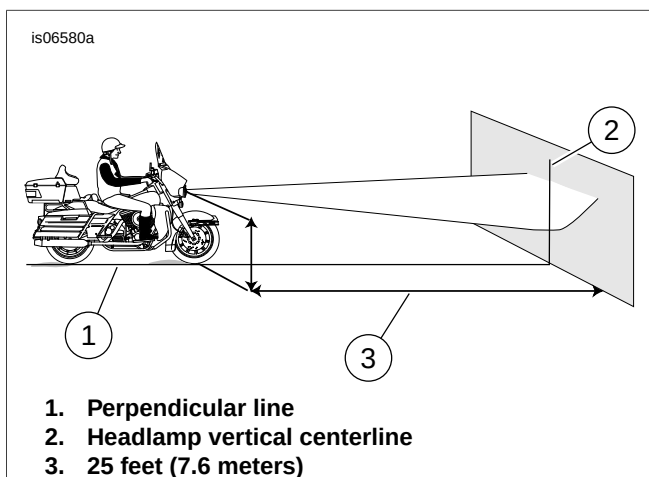

Figure 2. Checking Headlamp Alignment
3. See Figure 2. Position motorcycle so that front axle is 25 feet (7.6 meters) (3) from wall.
4. Draw a vertical line (2) off of the perpendicular line (1) on the wall, directly opposite of the motorcycle.